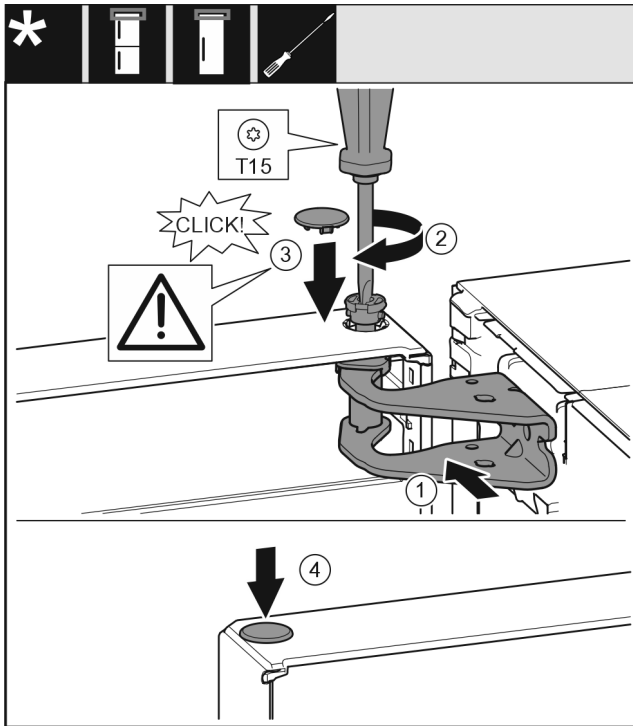

Fig. 20
- ▶ Align the top of the door with opening in the bearing bracket. Fig. 20 (1)
- ▶ Insert the bolt and tighten with a T15 screwdriver. Fig. 20 (2)
- ▶ Fit the protective cover to protect the door: Insert the protective cover and check that it is flush to the door. If not, insert the bolt fully. Fig. 20 (3)
- ▶ Insert the plugs. Fig. 20 (4)